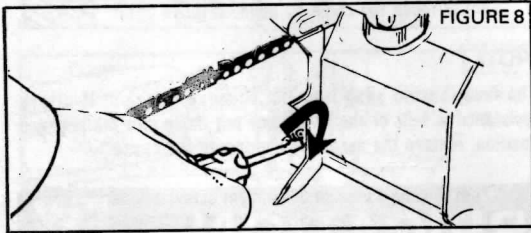

FIGURE 8
7. Guide the chain center links into the bar groove all the way around the bar. Remove the slack in the chain by turning the chain tension adjustment screw clockwise. (Figure 8).